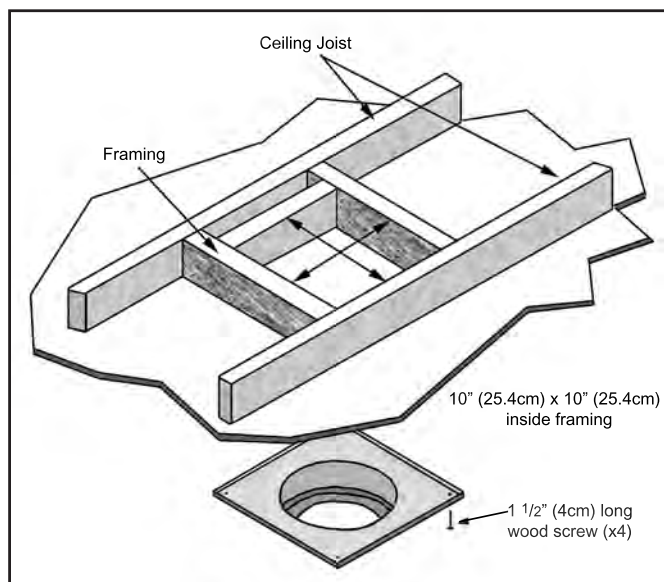
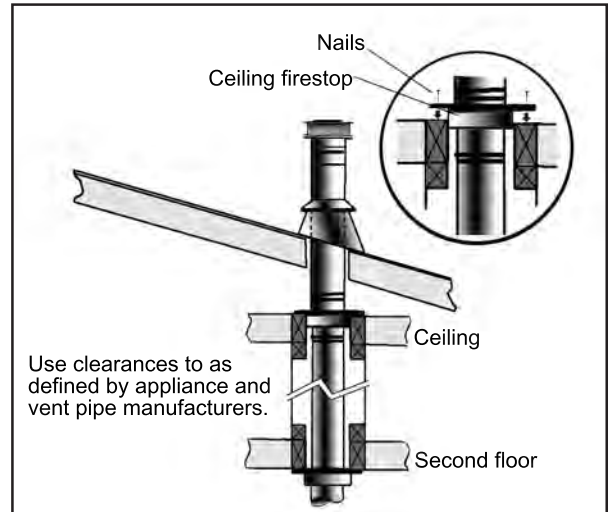

Figure 29: Wall Framing for 10" (25.4 cm) x 10" (25.4 cm) Hole for Vertical Installation.
Figure 33: Multi-Story Vent Pipe Installation.
3. To install the Round Support Box/Wall Thimble in a flat ceiling, cut a 10 inch (25.4 cm) square hole in the ceiling, centered in the hole drilled in Step 2. Frame the hole as shown in Figure 29.
- For multi story installations. A ceiling firestop is required at the second floor, and any subsequent floors (see Figure 33). The opening should be framed in the same manner as shown in Figure 29.